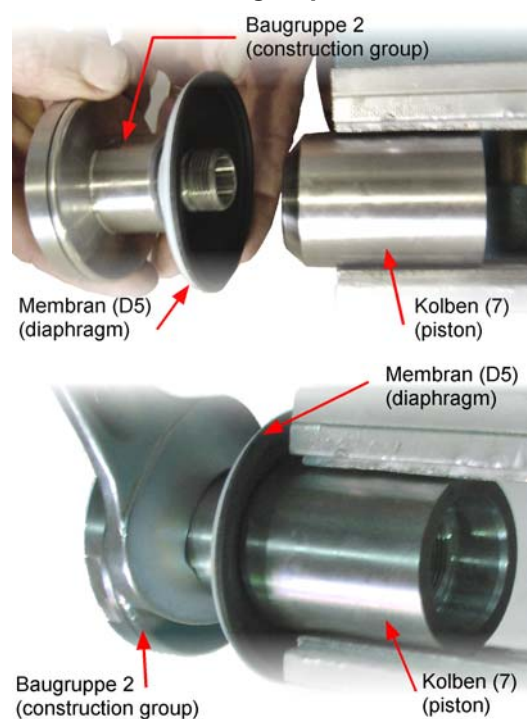

Fig. 8
- Stretch piston upper (7) in bench vice with protection braces.
- Mount plain bearing (D4) in piston upper (7).
- Put diaphragm on construction group 2 and screw in into piston upper (7) until metallic stop position (Fig. 8/Page 11).
- Screw in piston rod (12) until metallic stop position in actuator (12)
- Apply hexagon screws (11) only in order to avoid tensions while construction group 3 is built in.
- Screw in complete construction group 3 in piston rod (12) until metallic stop position while holding against drilling (B2) by means of a round bar steel.
- Screw in construction group 1 in spindle (6).
- Centre spindle (6), piston rod (12) and lantern (8) so that the groove in the spindle (6) and the thread in the piston rod (12) are on top of each other. (See fig. 8).
- Screw in set screw (10).
- Pull tight hexagon screws (11)
- Connect control air to (LA4), piston plate upper (5) is clocked.
- Put diaphragm (D5) on lantern (8).
12.8 Mounting valve insert in housing (VG)
- Build in complete valve insert in housing (VG).
- Mount and pull tight retaining clamp (9).
- "Piston plate upper (5) moves back to initial position.